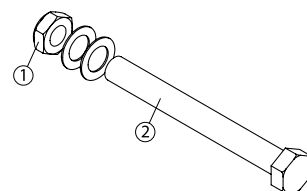

Fig. 10
- To remove the rear wheels: unscrew the bolt (1) (Fig. 10) located inside the wheelchair axle bushing and pull out the wheel.
- To reinstall the rear wheels on the wheelchair: insert the threaded axles (2) in the axle bushing.
- Tighten the bolt (1) and make sure that the wheel is still turning without any restrictions.